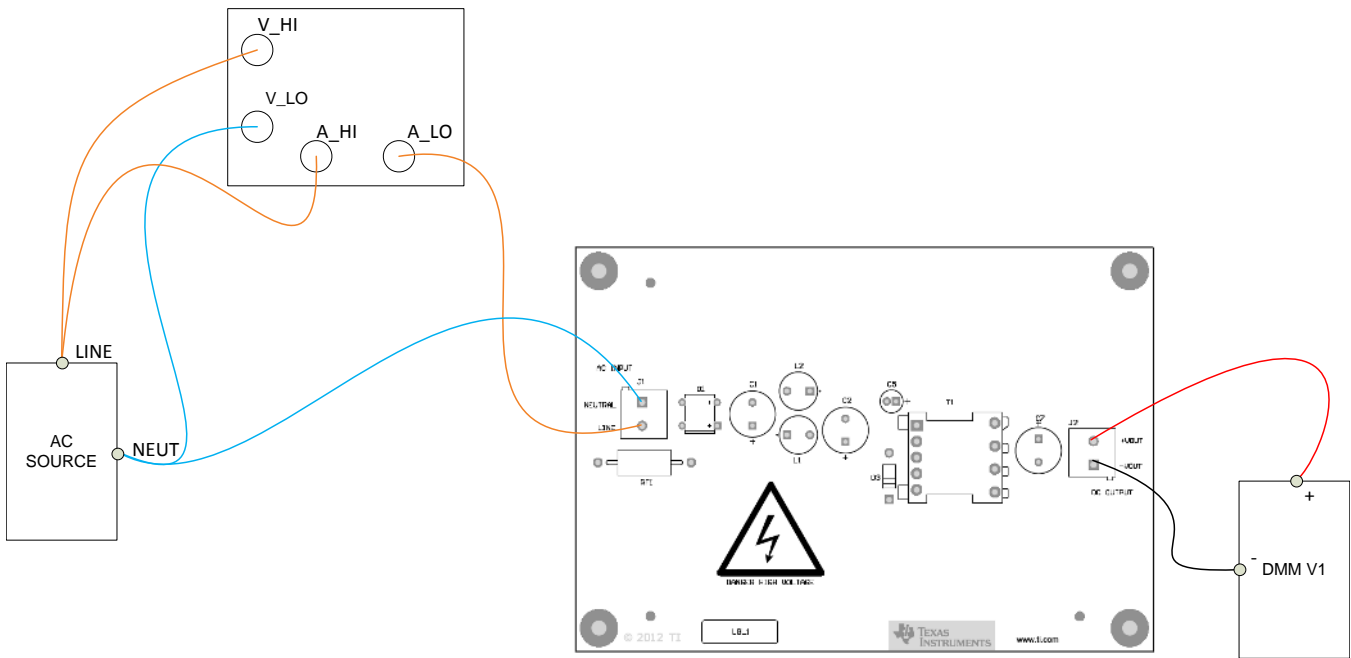
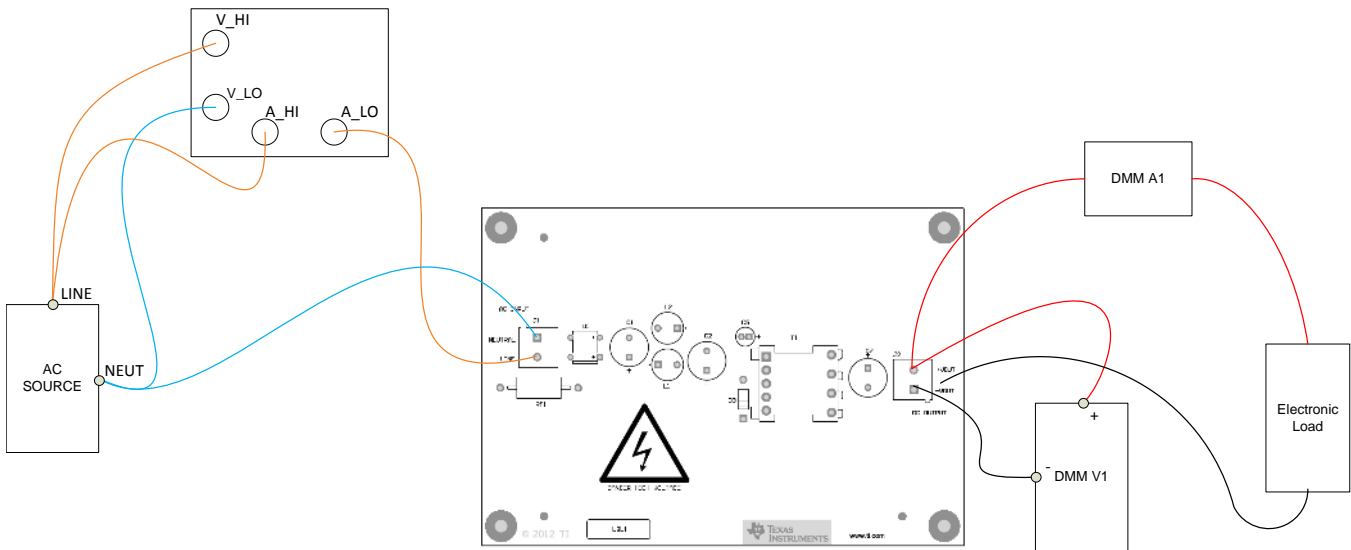

Figure 3. UCC28911EVM-718 Recommended Test Set Up without a Load
Figure 4. UCC28911EVM-718 Recommended Test Set Up With a Load
Figure 3 shows the equipment set up when measuring the input power consumption during no load. During the no-load test, the power analyzer should be set for long averaging in order to include several cycles of operation and an appropriate current scale factor should be used. Figure 4 shows the basic test set up recommended to evaluate the UCC28911EVM-718 with a load.
See Figure 3 and Figure 4 for recommended test set ups.
AC Input Source: The input source shall be an isolated variable AC source capable of supplying between $85 V_{RMS}$ and $265 V_{RMS}$ at no less than 15 W and connected as shown in Figure 3 and Figure 4. For accurate efficiency calculations, a power meter should be inserted between the AC source and the EVM. For highest accuracy, connect the voltage terminals of the power meter directly across the power source.
Load: For the output load, a programmable electronic load set to constant current mode and capable of sinking 0 to $1.5 A_{DC}$ at $10 V_{DC}$ shall be used. For highest accuracy, V_{OUT} can be monitored by connecting a DC voltmeter, DMM V1, directly across the V_{OUT} and $-V_{OUT}$ terminals as shown in Figure 3 and Figure 4. A DC current meter, DMM A1, should be placed in series with the electronic load for accurate output current measurements.
- (b) For operation with a load, as shown in Figure 4, set the electronic load to constant resistance mode.
1. Use the test set up shown in Figure 3.
- (a) Use the test set up shown in Figure 4.